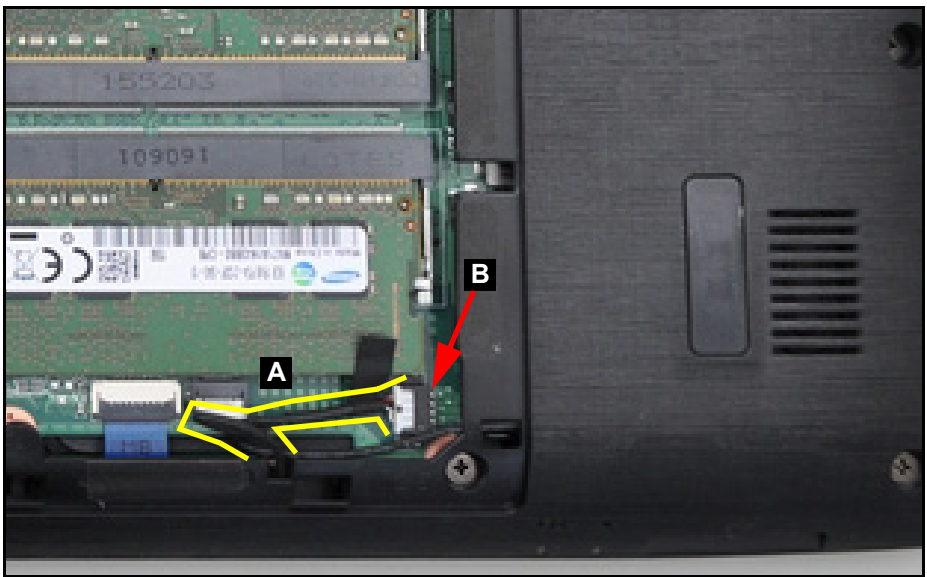

Figure 3-112. Replacing the Base Cover
4. Connect the speaker cable (A) to the mainboard connector (B) (Figure 3-112).